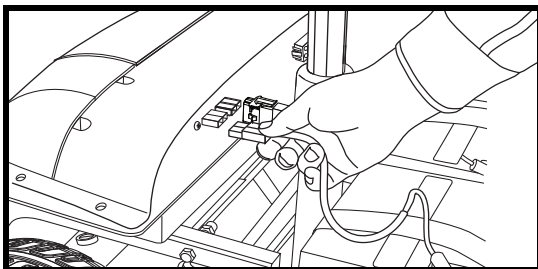

Figure 18. Disconnecting The Battery Harnesses
5. Unplug both black and white 2-pin battery harnesses. See figure 18.